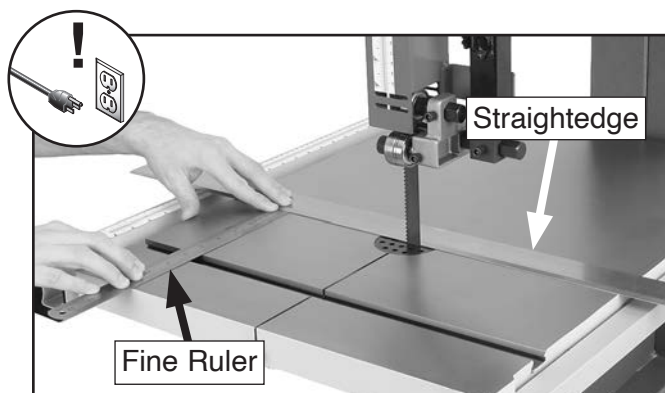

Figure 61. Checking miter slot parallelism.
- Place an accurate straightedge along blade so that it lightly touches both front and back of blade without going across a tooth (see **Figure 61**).
- Use a fine ruler to measure distance between straightedge and miter slot (see **Figure 61**). Distance should be the same at front and back of table.